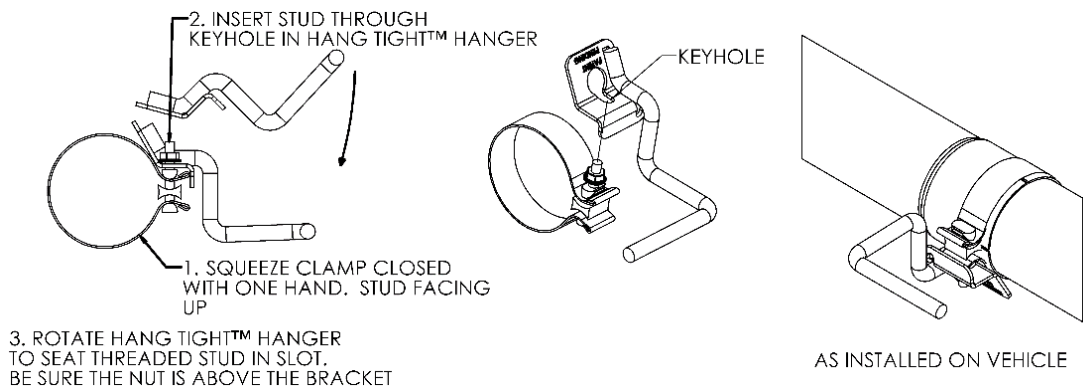
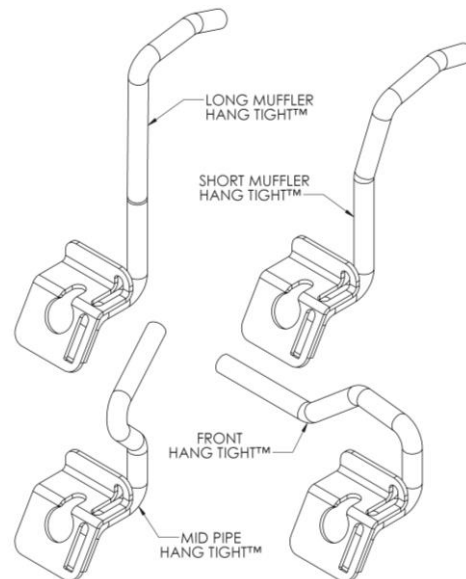

Figure 1
Figure 2
2. Install the hanger removed previously by sliding the outside hole in the rubber insulator over the **Front Hang Tight™** (see figure 1 for Hang Tight instructions and figure 2 for hanger clarification) and re-connect to the transmission.